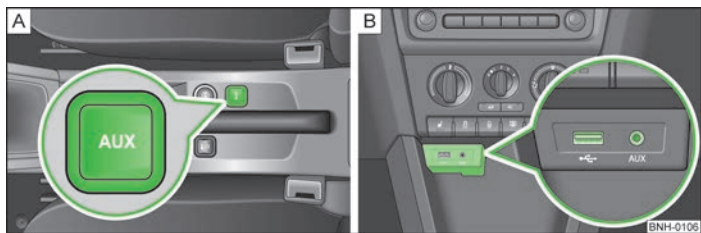

Fig. 75 AUX input/MDI input
- Between the front seats in the centre console » Fig. 75 - A;
- Above the storage box of the front centre console » Fig. 75 - B;
The MDI input is located above the storage box of the front centre console » Fig. 75 - B.
You can also use the USB input » Fig. 75 - B to connect e.g., a USB stick containing audio files. Audio play back starts as soon as you connect the USB stick.